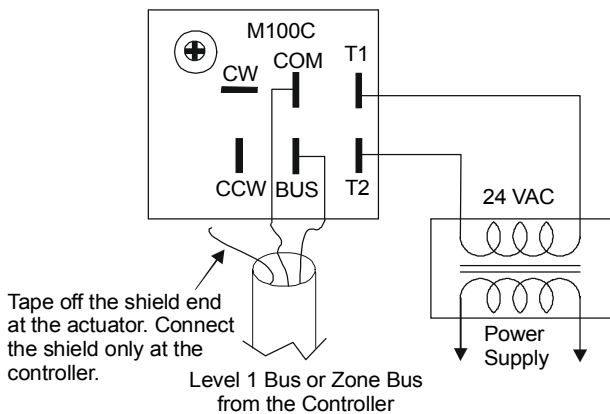

Figure 7: Typical Single Unit Wiring Diagram
3. Connect the controller to COM and BUS located in the wiring compartment. (See Figure 7.)
Figure 7 shows a wiring configuration. Refer to the *M100C Series Actuator with Digital Control Signal R81CAA-2 Interface Board Application Note (LIT-2681132 in FAN 268.1, 977, or 1628.3)* for more specific wiring information.